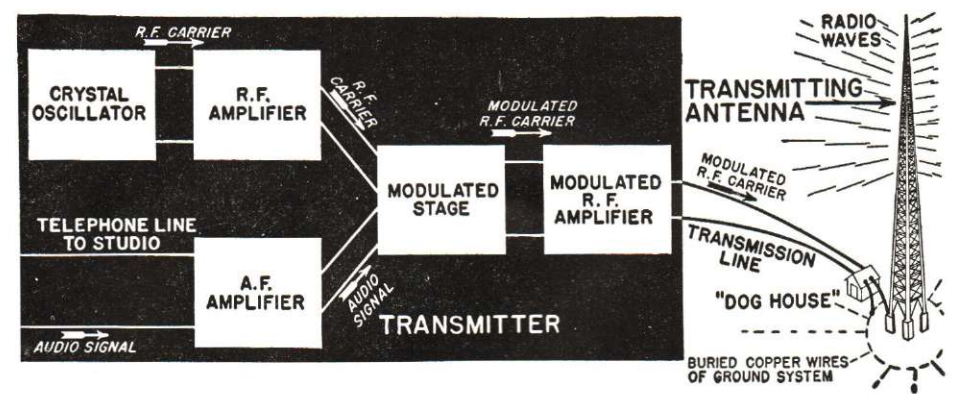

FIG. 12. All the main sections of a broadcast transmitter are shown here, along with the basic connections to the transmitting antenna.
**R. F. Amplifier.** At this point, a "picture" of the main sections of a complete transmitter will help you to understand how the audio signal and the r.f. carrier get together. This picture is given in the block diagram in Fig. 12.
The modulated r.f. carrier signal at the output of a radio transmitter is fed to the transmitting antenna tower over a special two-wire transmission line which runs through the tuning house or "doghouse," essentially as was illustrated in Fig. 12. One of the transmission line wires goes to the base of the huge steel antenna tower. This tower is insulated (electrically separated) from the earth by means of insulators. The other transmission line wire goes to a network of buried copper wires which radiate outward for hundreds of feet from the tower like the spokes of a wagon wheel. These wires serve as the ground connection.